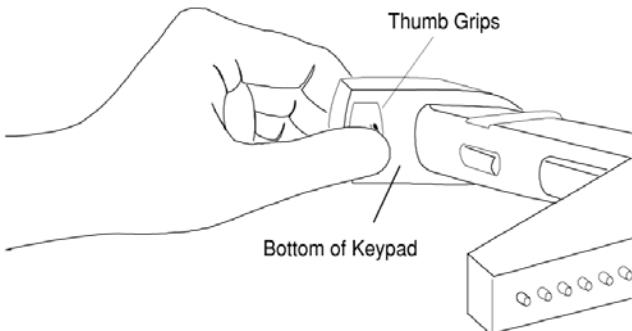

Figure F.2.1a: Removing Battery Case
- 1. Remove battery case.** Position your thumb over the thumb grips (see Figure F.2.1a) and brace your fingers against the front of the keypad. Apply firm pressure to the panel with the thumb grips to release the latch.